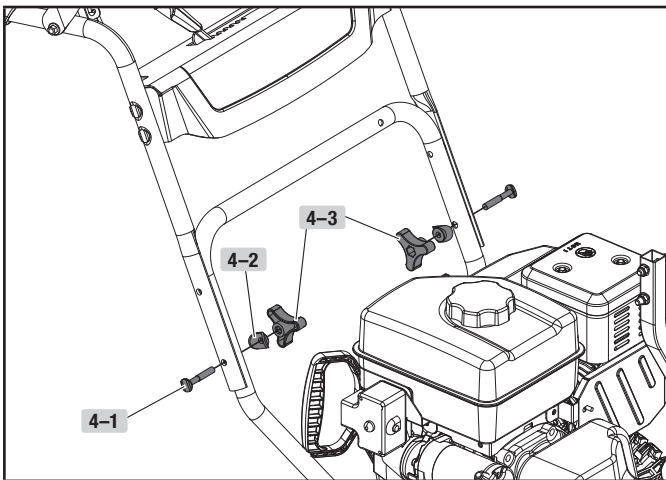

Figure 4
1. Connect the upper handle and lower handle with 2 bolts (4-1), 2 washers (4-2) and 2 locking knobs (4-3) only on the bottom – keep them loose so you can fold the handle down in the next step (Fig. 4).